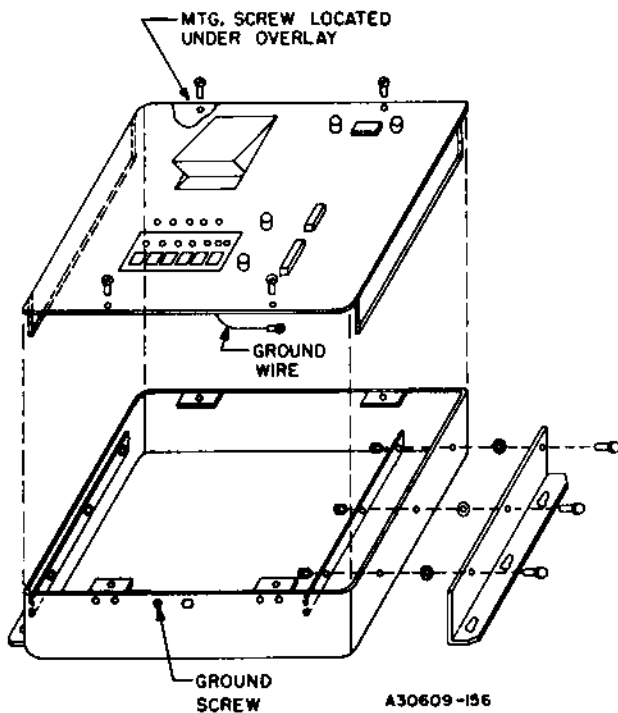

Figure B.1 — Vertical Mounting
STEP 1A: For vertical mounting: attach the vertical brackets to the empty case, as shown in Figure B.1.
STEP 3: Loosen the four hold-down screws and remove the Loader/Recorder front panel (complete with electronics and power supply attached) from the original carrying case. Insure the grounding wire is also loosened. This procedure is also shown in Figures B.1 and B.2.